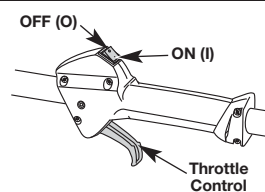

Fig. 4
- NOTE:** There is no need to turn the unit on. The On/Off Control is in the ON (I) position at all times (Fig. 4).
2. Press and hold the On/Off Control switch in the **OFF (O)** position until the unit comes to a complete stop (Fig. 4).